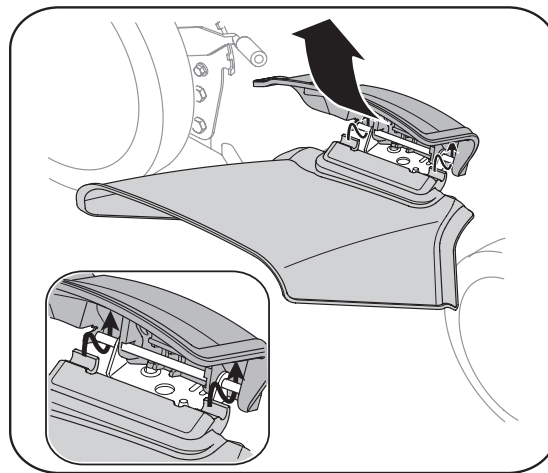

Figure 3-6
- b. Slide two hooks of side discharge chute under the hinge pin on the mulching plug assembly and lower the side mulching plug. See Figure 3-6.